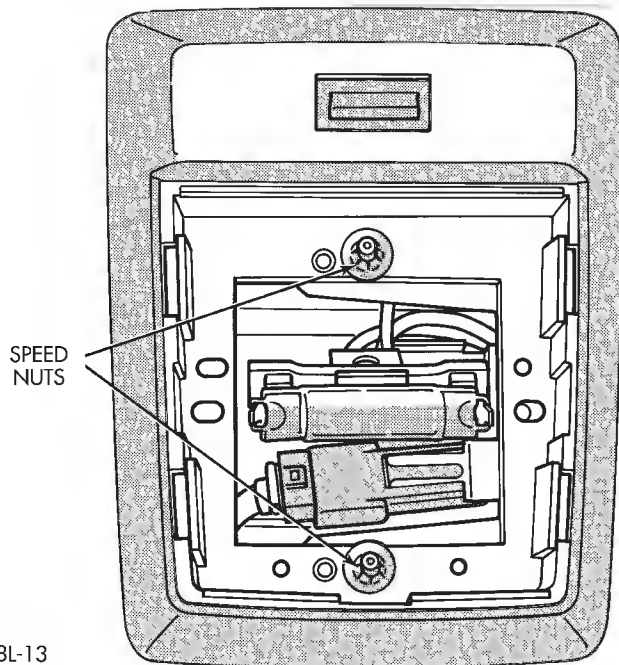

Fig. 2 Dome Lamp Removal/Installation
- (1) Remove the dome lamp lens by squeezing it at both sides. This will separate the lens retainer tabs from the lamp housing shoulders.
- (2) Pull the lens downward to remove it from the lamp housing.
- (3) Remove the lamp housing speed nuts (Fig. 2).
- (1) Position the dome lamp housing at the headliner cavity.
- (2) Connect the wire harness connector.
- (3) Install the lamp housing speed nuts (Fig. 2).
- (4) Position the lens at the lamp housing and force it upward into the housing until the retainer tabs are seated on the lamp housing shoulders.